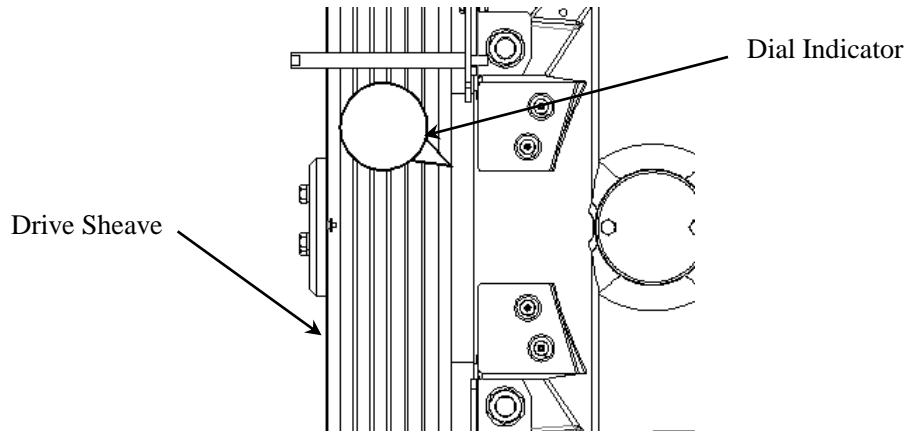

Figure 42 Sheave Replacement TIR
3. Replace the drive sheave retainer and align the three (3) inner holes in the output shaft.
4. Insert, thread, and hand tighten the three (3) drive sheave retaining bolts.
5. Tighten the three (3) drive sheave retaining bolts to 136 Nm (100 ft-lb).
7. Attach a dial indicator to the machine, over the drive sheave, between the 12 o'clock and the 1 o'clock position. Set the indicator to measure the side of the cleaned rope groove. See figure 42.